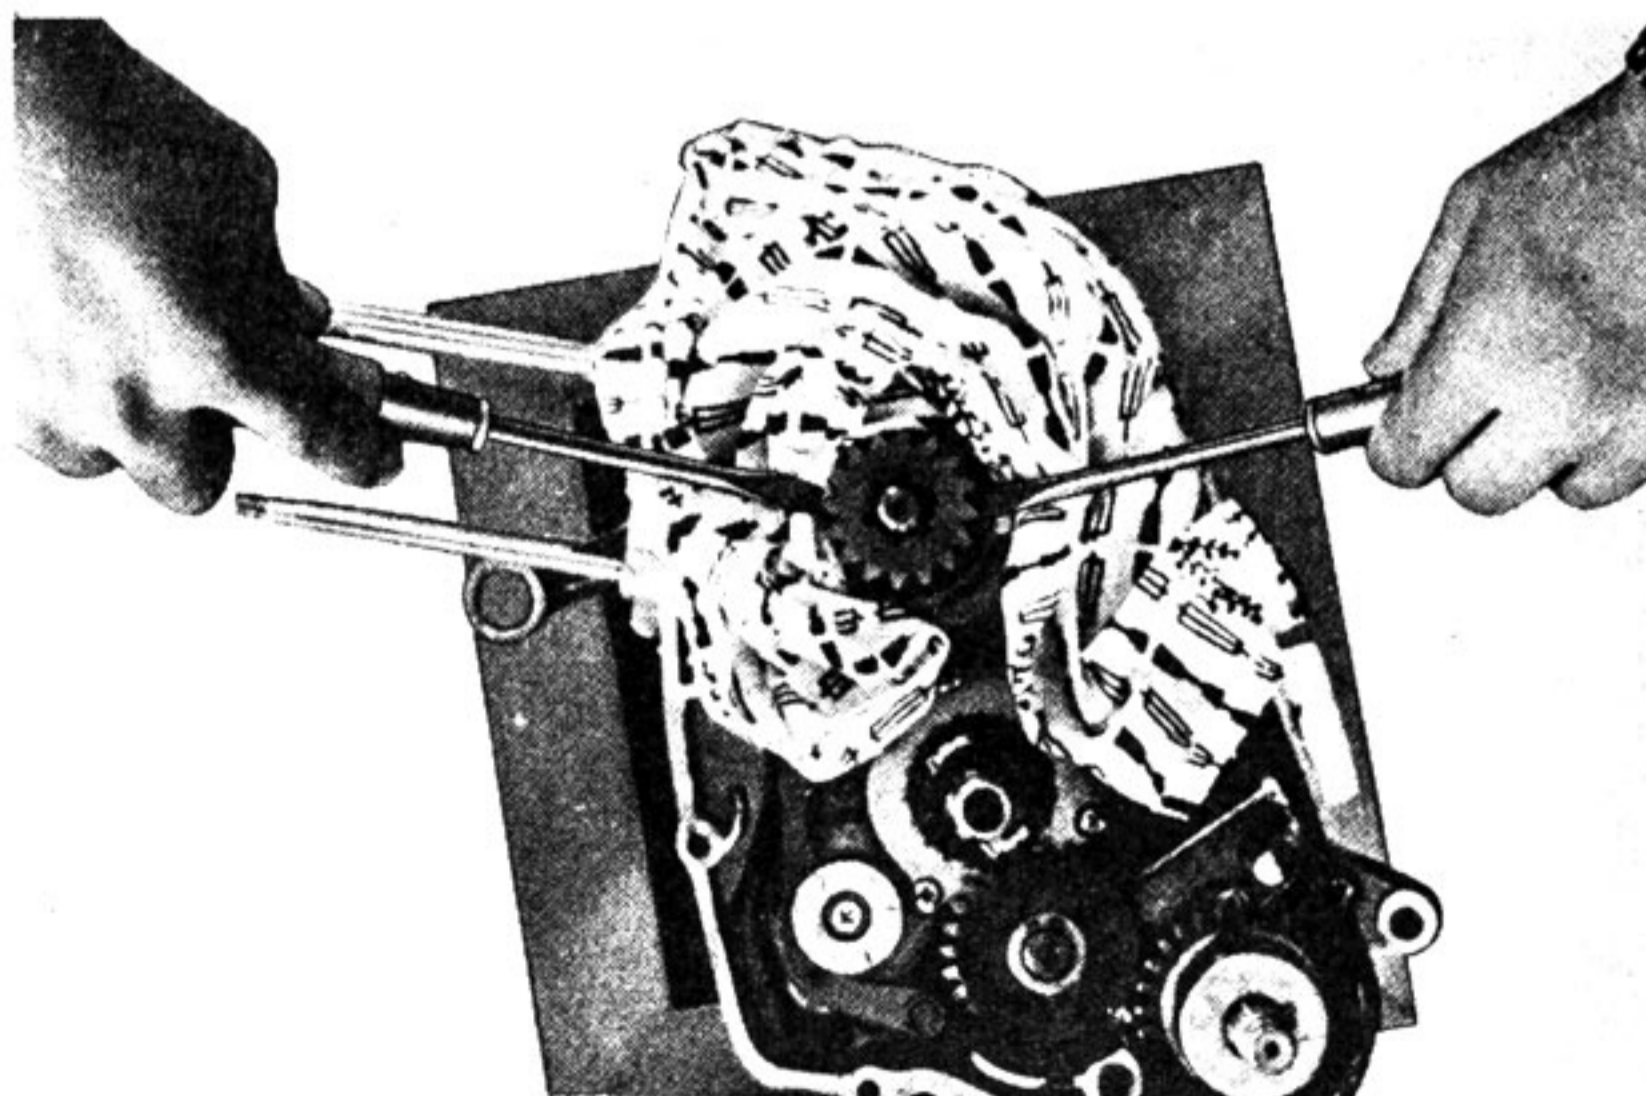

Fig. 4-10-2
- b. To remove the gear, use two slot-head screw-drivers in the manner as shown in Fig. 4-10-2.